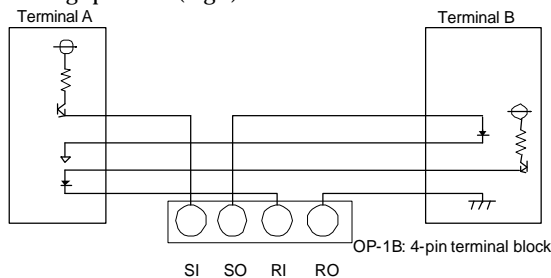

Fig.2 Connection for monitoring
(1)Monitoring operation (Fig.2)